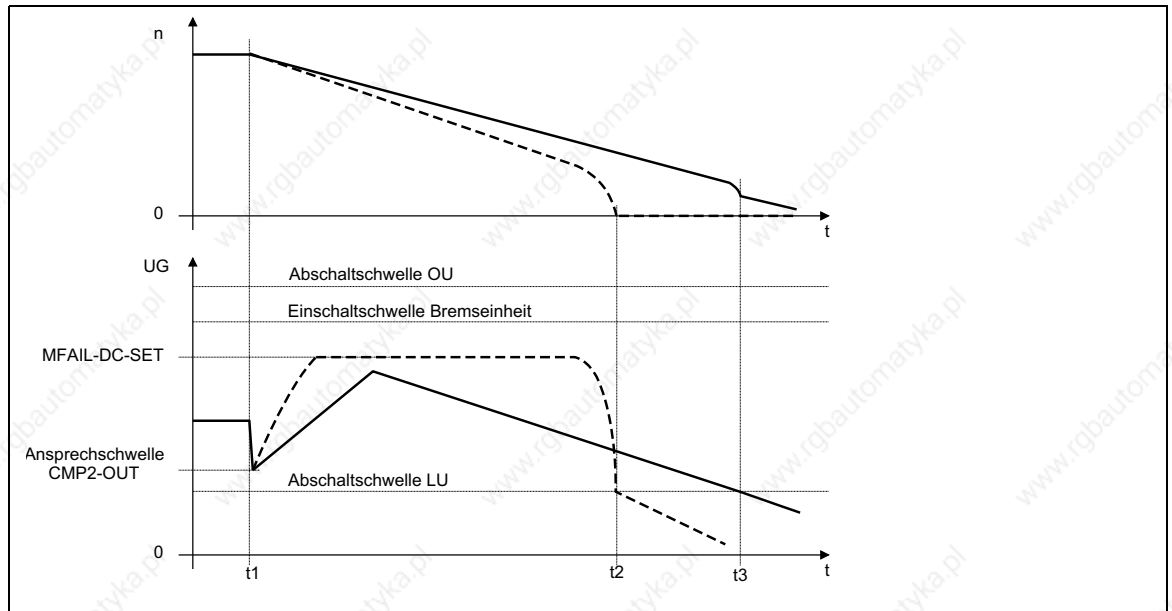

Fig. 3-104
- Increase of the deceleration time or reduction of the brake torque (see Fig. 3-104) is only possible with restrictions: